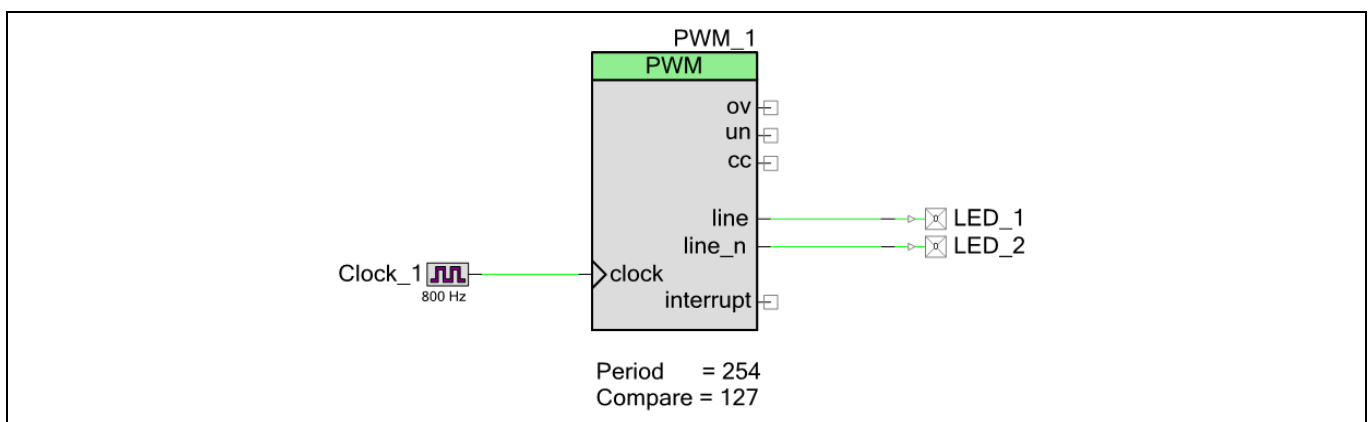

Figure 45 Wiring the schematic
11. Wire the Components together, as shown in **Figure 45**.